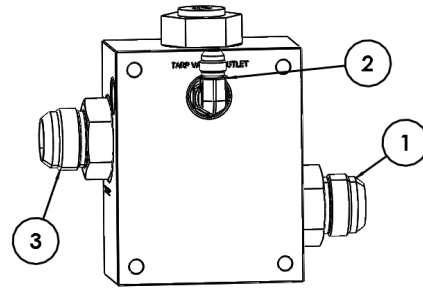

Figure 6.2
The control valve gets pressure from a US Tarp supplied priority flow control valve (Figure 6.2). This priority valve is connected in line with the truck hydraulics and diverts a small portion of the total hydraulic flow to the tarp control valve. Connections are outlined as (1) **Pump Pressure** – flow/pressure from truck hydraulic pump; (2) **Priority Flow** – 6 GPM flow/pressure to tarp hydraulic system; (3) **Excess Flow** – flow to truck/trailer hydraulics.